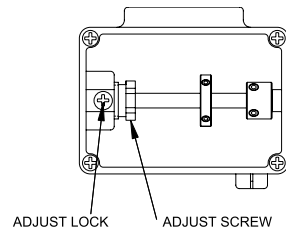

Figure 4b
Remove front cover and gasket from sensor assembly located below enclosure by unscrewing 4 phillips screws. Loosen phillips screw adjustment lock (see Figure 4b). Adjust set point by turning 5/8" hex screw clockwise (IN) to increase setting or counterclockwise (OUT) to decrease setting. Adjusting screw should be locked by tightening adjustment lock.